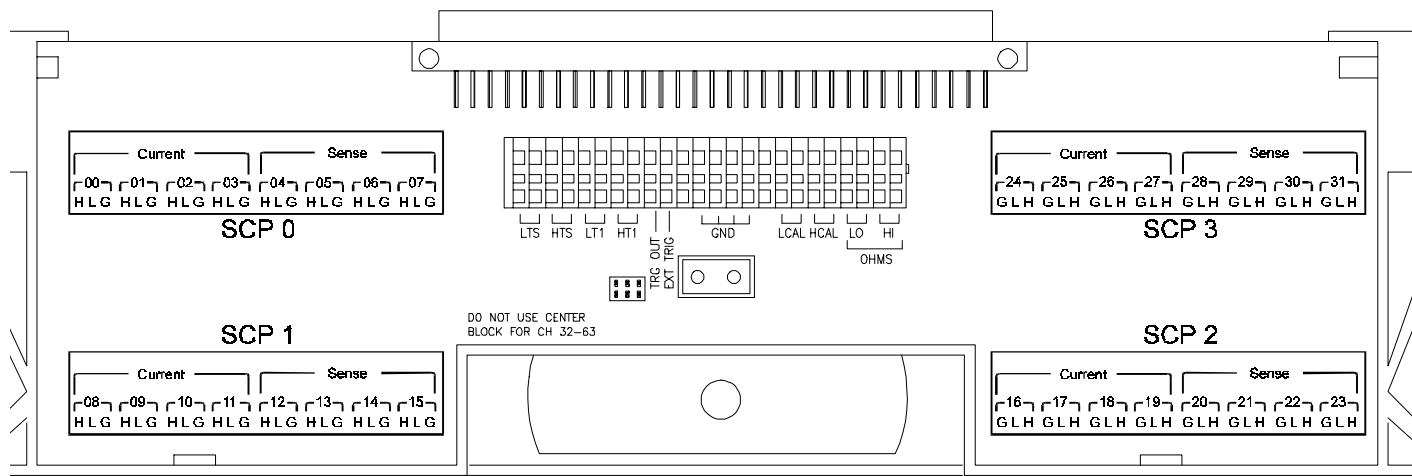

Figure 3 HP E1518 B-size Terminal Module Connections (Ch 00-31)
- For the HP E1313A, use the label sheet marked B-size (Figures 3 and 4).